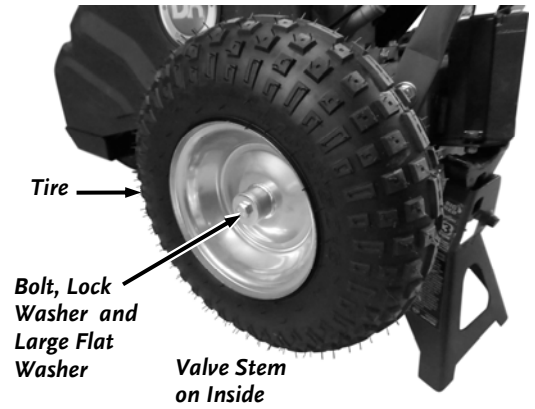

Figure 38
1. With the PRO XL-SP STUMP GRINDER on the ground, remove the Bolt, Lock Washer and Large Flat Washer from the Axle with a 1/2" Wrench (**Figure 38**).